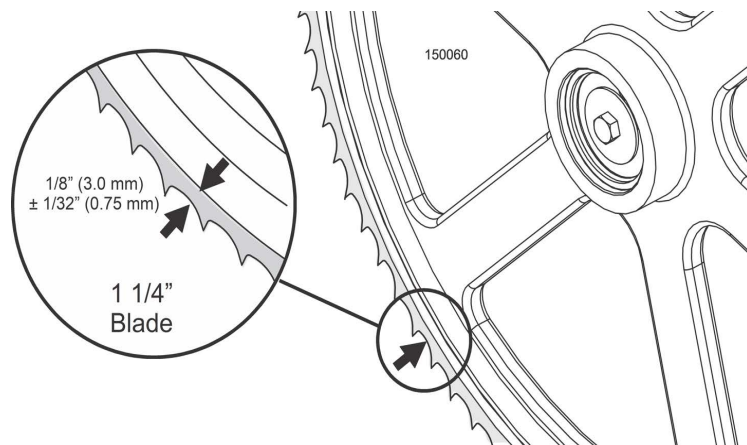

FIG. 8-14
8. If necessary, adjust the drive-side blade wheel to position the blade as shown in Figure 8-14.